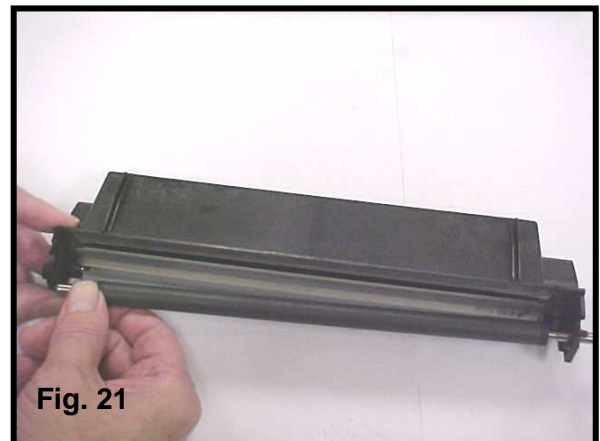

Fig. 21
21. Hold the PCR by the white gear, push towards the opposite side until it pops out of the contact saddle, then pull out of the opposite side saddle. Remove the PCR and clean with a lint-free cloth and water (Fig. 21).